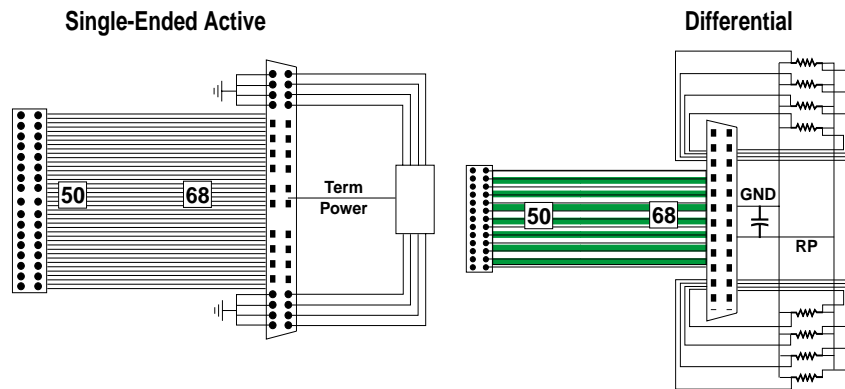

Figure 1-6 SCSI Single-Ended and Differential Schematic
- Figure 1-6 SCSI Single-Ended and Differential Schematic 16